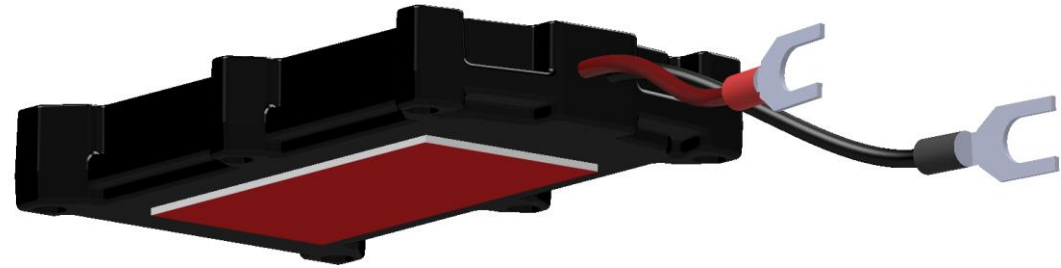
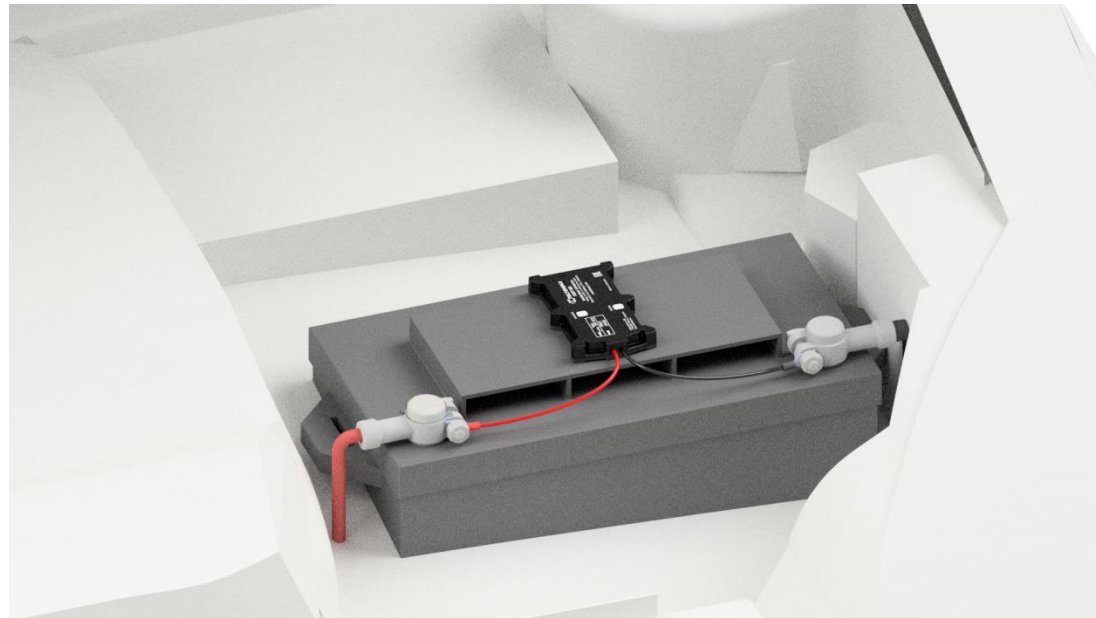

Figure 12 Double sided tape on the back
Figure 13 Example of device mounting
- There is a double sided tape on the back of the device (**Figure 12 Double sided tape on the back**), use it to attach the device on the battery, so that the GNSS antenna and LEDs indicators are facing up (**Figure 13 Example of device mounting**).
- Device power wire is designed to be directly connected to the positive terminal fastener of the vehicle battery (**Figure 13 Example of device mounting**).
- Device ground wire is designed to be directly connected to the negative terminal fastener of the vehicle battery (**Figure 13 Example of device mounting**).